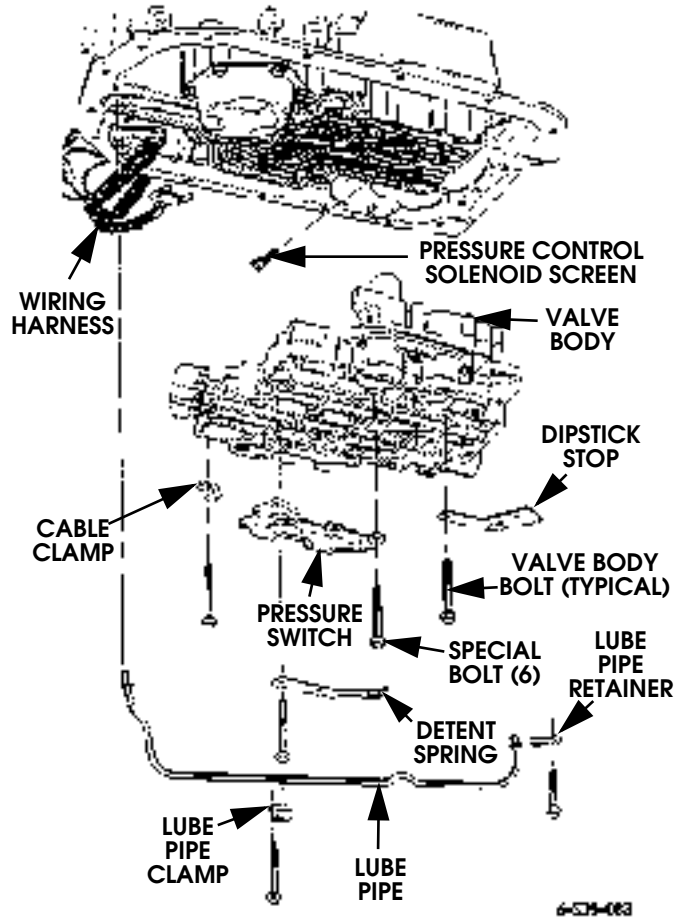

Figure 5-38: Valve Body Removal/Installation
2. Remove bolts attaching lube pipe clamp and retainer. Then carefully remove lube pipe (Figure 5-38).
4. Remove special bolts attaching pressure switch to valve body and remove switch. Keep special bolts separate and note position for installation reference (Figure 5-38).
6. Install lube pipe, retainer, and pipe clamp (Figure 5-38).